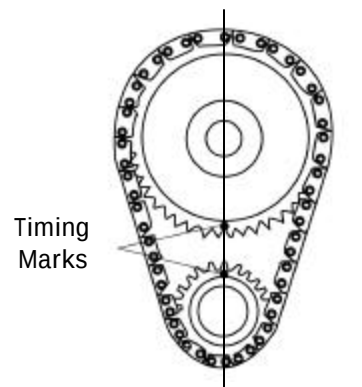

Figure 2
15. Remove fuel pump and fuel pump pushrod (vehicles with mechanical fuel pumps only). Rotate engine until timing marks are aligned (*See Fig. 2*).
- **PUSHRODS AND ROCKER ARMS:** High performance pushrods and adjustable rocker arms and studs are recommended for this installation. After the cam is installed and timed correctly (*See Fig. 2*), it will be necessary to check each pushrod for correct lifter preload.
4. Install camshaft with timing marks lined up as recommended by factory specifications (See Fig. 2).